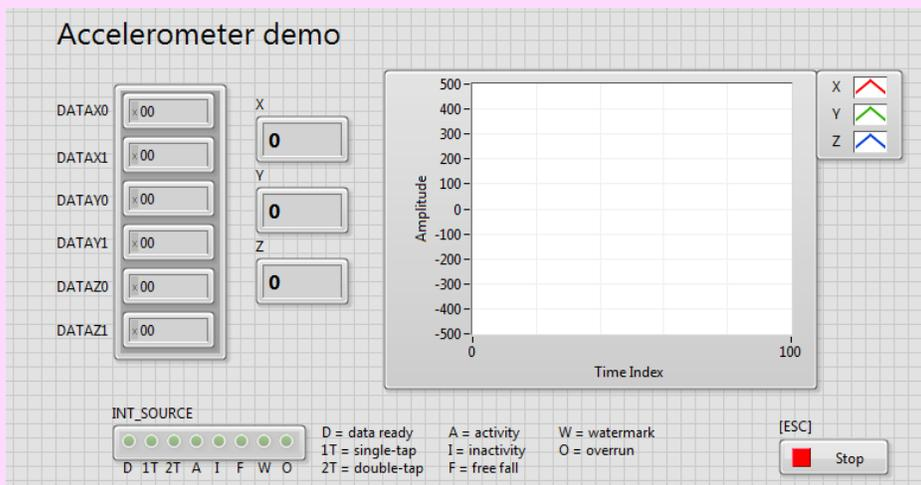

Figure 1: Accelerometer Demo Front Panel
Step 2: Open the Accelerometer demo folder and project (Accelerometer demo.lvproj). Open the VI titled "Main.vi". The front panel of the VI should look like the picture shown in figure 1